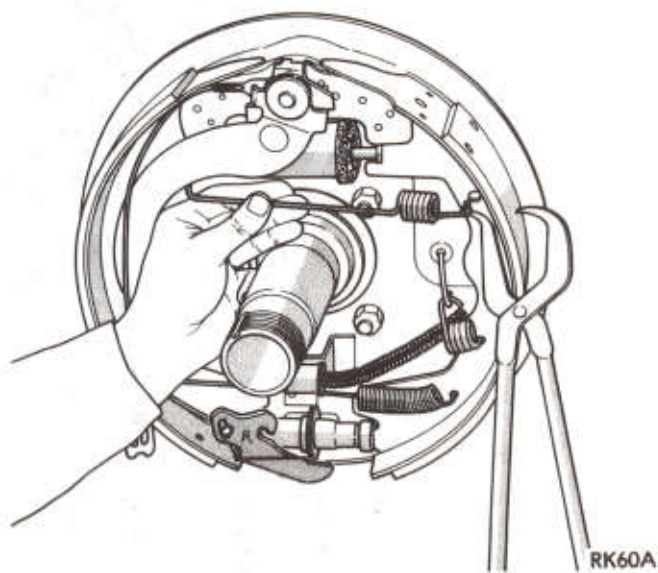
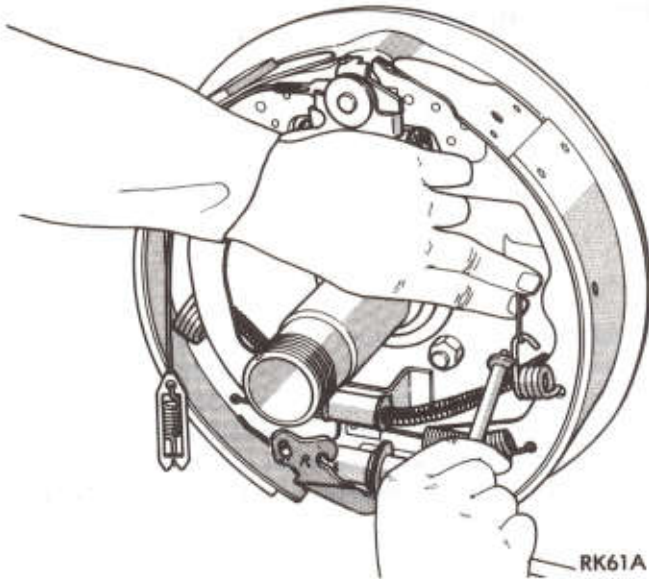
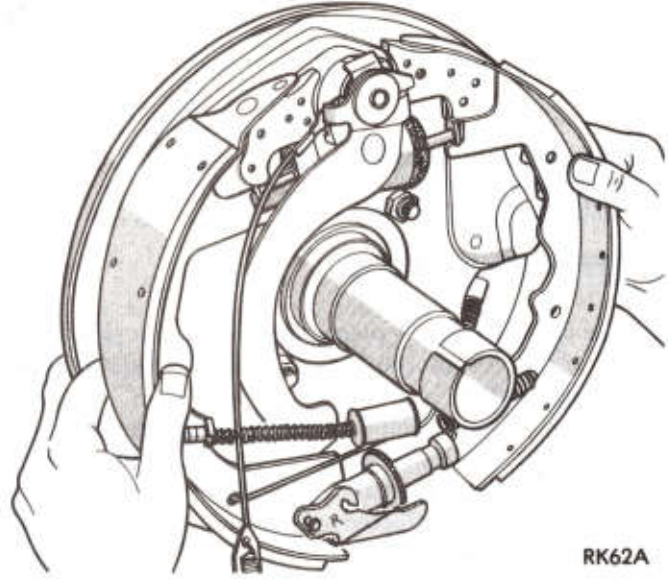

Fig. 6—Removing or Installing Shoe-to-Shoe Spring (Rear)
Fig. 7—Removing or Installing Shoe Hold-Down Springs (Rear)
Fig. 8—Removing or Installing Shoe Assembly (Rear)
(2) Using brake spring pliers (Fig. 6) unhook upper shoe-to-shoe spring. Unhook and remove shoe hold-down springs (Fig. 7).
(3) Disconnect parking brake cable from parking brake lever.
(4) Remove shoes with lower shoe-to-shoe spring and starwheel as an assembly (Fig. 8).
(2) Assemble starwheel, lower shoe-to-shoe spring and primary and secondary shoe and position of support plate (Fig. 8).
(3) Connect parking brake cable to parking brake lever.
(4) Install and hook hold-down springs (Fig. 7).
Using brake spring pliers replace upper shoe-to-shoe spring (Fig. 6).